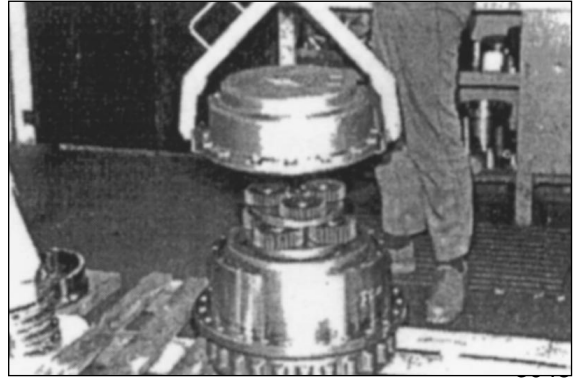

Figure 78
16. Remove end cover, using puller. Figure 78.